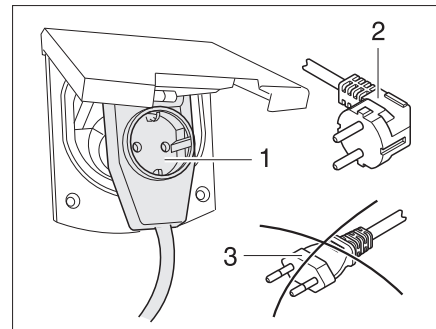

Fig. 93 Connecting an angled connector with socket
- ▶ If a CEE 17 angled connector with socket mounted on rear (Fig. 93,1) is used, use only a rubberised and sealed IP 44 plug with earth contact (Fig. 93,2). Do not use a plug without earth contact (Fig. 93,3). Danger of electrocution!